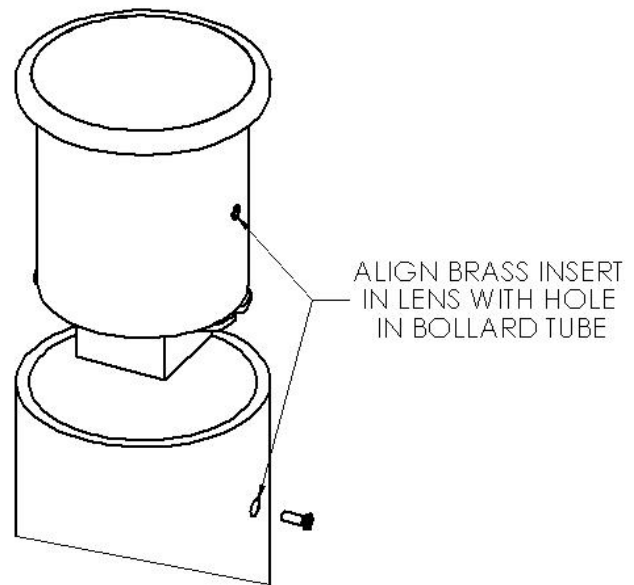

Figure 5: LED Lens Assembly Installation
8. Insert the lens and LED assembly into the top of the bollard tube and align the brass thread inserts in the side of lens with the two small holes near the top of the bollard tube (See Figure 5).
9. Insert the two 8-32 flat head screws into the threaded inserts through the holes in the bollard tube and gently tighten (See Figure 5).